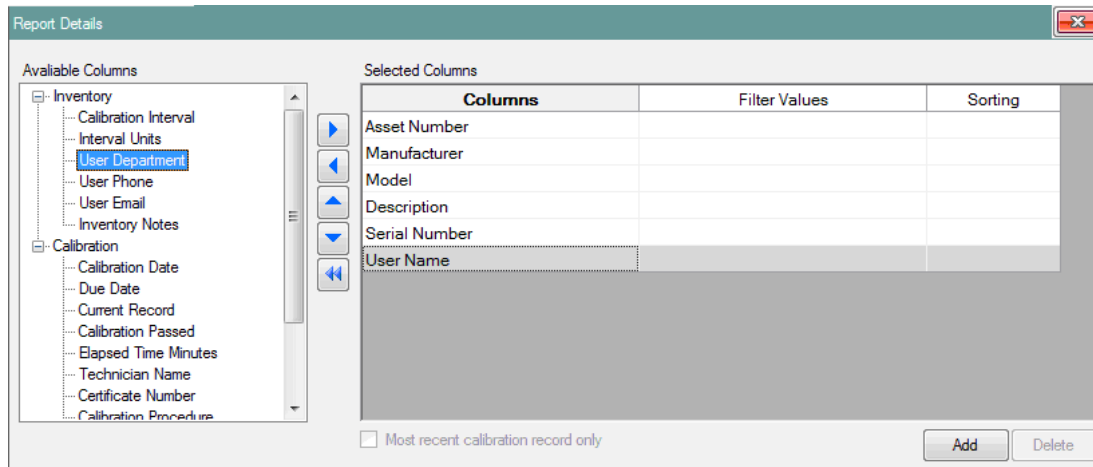

Figure 38. Report Details Selection
2. Click on the **Add Report details** button to open the form shown in Figure 38.